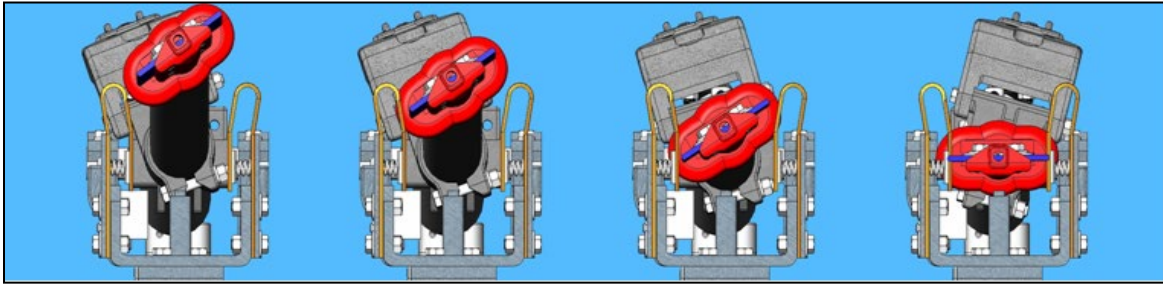

Figure 6. Blade Tip Travel
- 2.1.3. The blade tip must come down into the jaw in its center, without dragging on either side as shown in **Figure 6**. Use the jack screws that support the jaw insulator to tilt the insulator sideways, if necessary to ensure this condition.